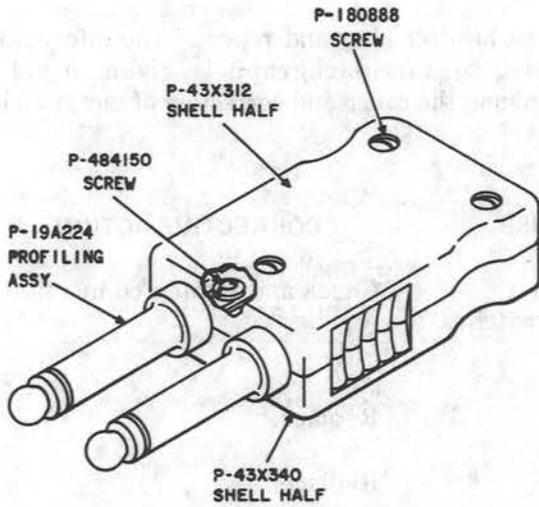
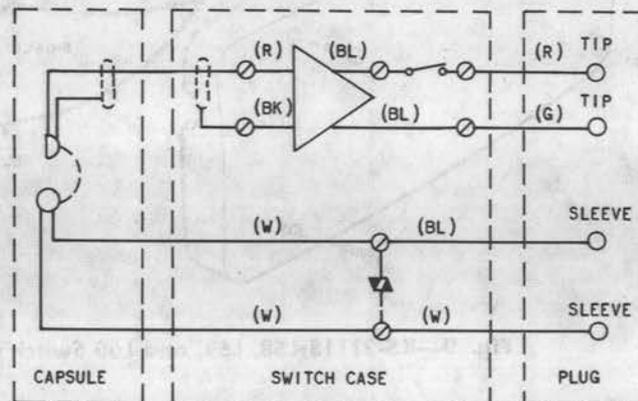

Fig. 7—464A Plug
Fig. 11—KS-21118 L3 Through L9 and L23 Through L29 Headset Schematic
5.08 464A Plug: Fig. 7—Remove the plug housing screws with the KS-6854 screwdriver. Note the color of the cord conductor connections to the terminals. Remove the cord terminal screws using the KS-2348 cord repair tool and remove the cord from the profiling assembly and plug shell. Insert the new cord terminals through the hole in one half of the plug shell and connect to cord terminals as shown in Fig. 11 or 12. Place profiling assemblies in shell half and reassemble the parts in the reverse order of removal.
and reassemble in reverse order of removal, connecting the terminal leads as shown in Fig. 11 or 12. Dress the leads as originally positioned.